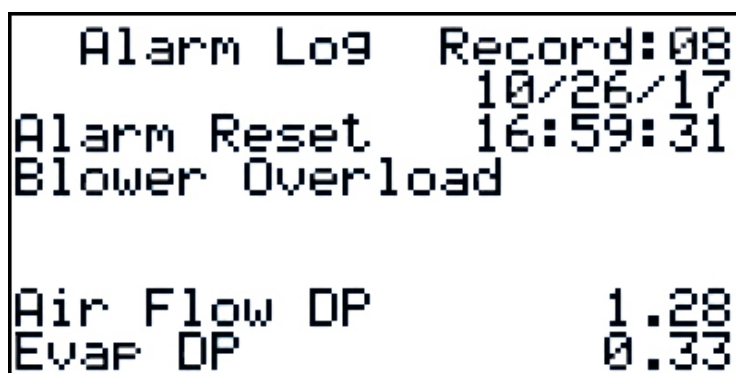

Figure 99
3.3 Alarm Log (Figure 99)
The Alarm Data Logger Screen is accessible from the Alarm Reset screen (See Figure 99) by pressing the **ENTER** key. This screen shows records of the alarm log. The bottom two lines will show the pertinent data that was recorded when the alarm occurred. Use the **UP** and **DOWN** keys to view other records.